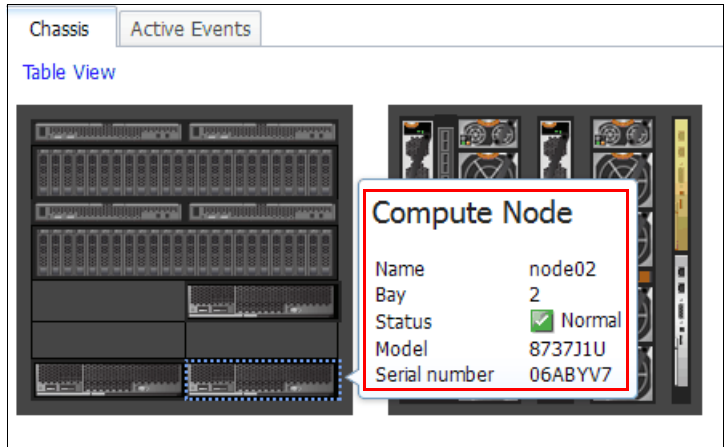

Figure 13-26 CMM Chassis Map - node canister status information
3. Hover the mouse over a component to view information about it, as shown in Figure 13-26 and Figure 13-27.